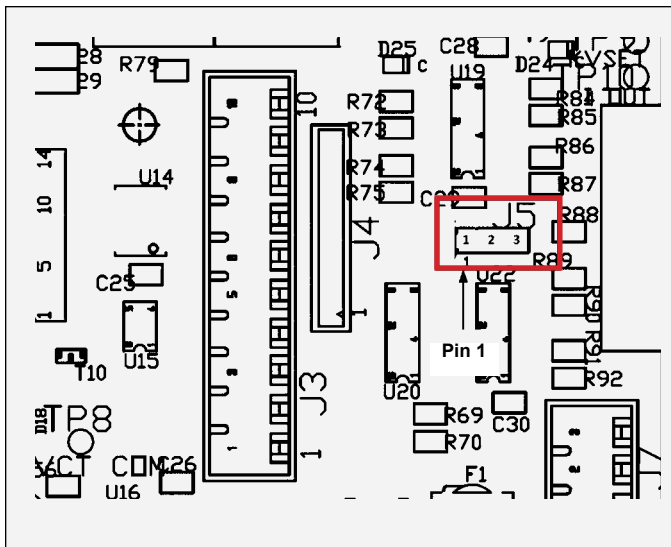

Figure 17: PC Mainboard Jumper J5 Location
7. Set the main PC board sink/source jumper (J5) for the rest of the digital I/O signals. The location of this jumper is shown in Figure 17. Set the jumper the correct pins for the desired input type as listed in the following table.